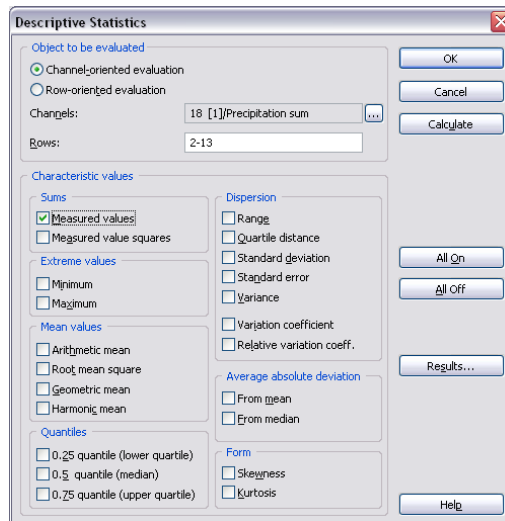

Figure 4-1. Precipitation Summation in Sections
7. Select **Characteristic values»Sums»Measured values**. DIAdem shows the **Descriptive Statistics** dialog box as shown in Figure 4-1.